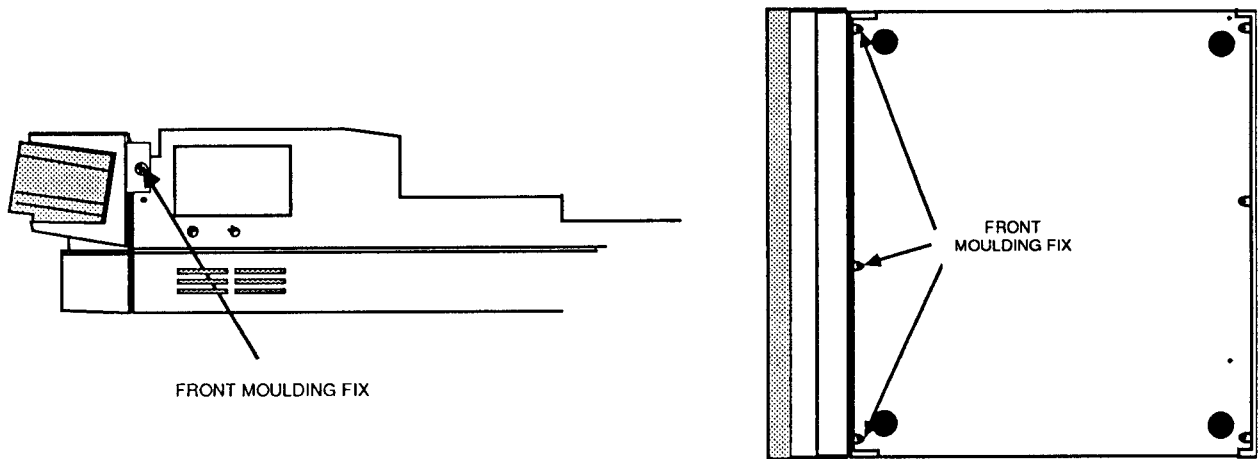

Fig. 2 – Removing the front moulding assembly
1. Remove the two screws securing the front moulding assembly at each side. Stand the unit on one side and remove the three screws securing the front moulding assembly to the base metalwork (see Fig. 2).